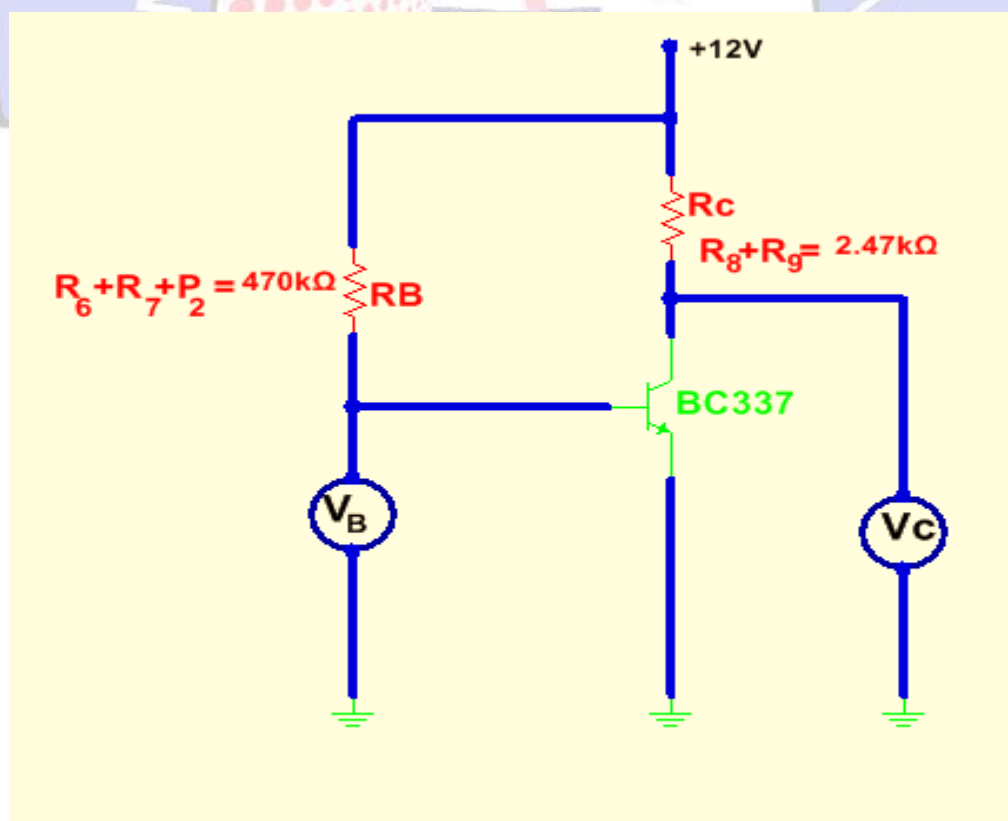

Figure 3: Practical Fixed Bias Transistor Circuit
1. Connect the circuit shown in Fig.3. Use the NPN transistor BC337 in (M90).